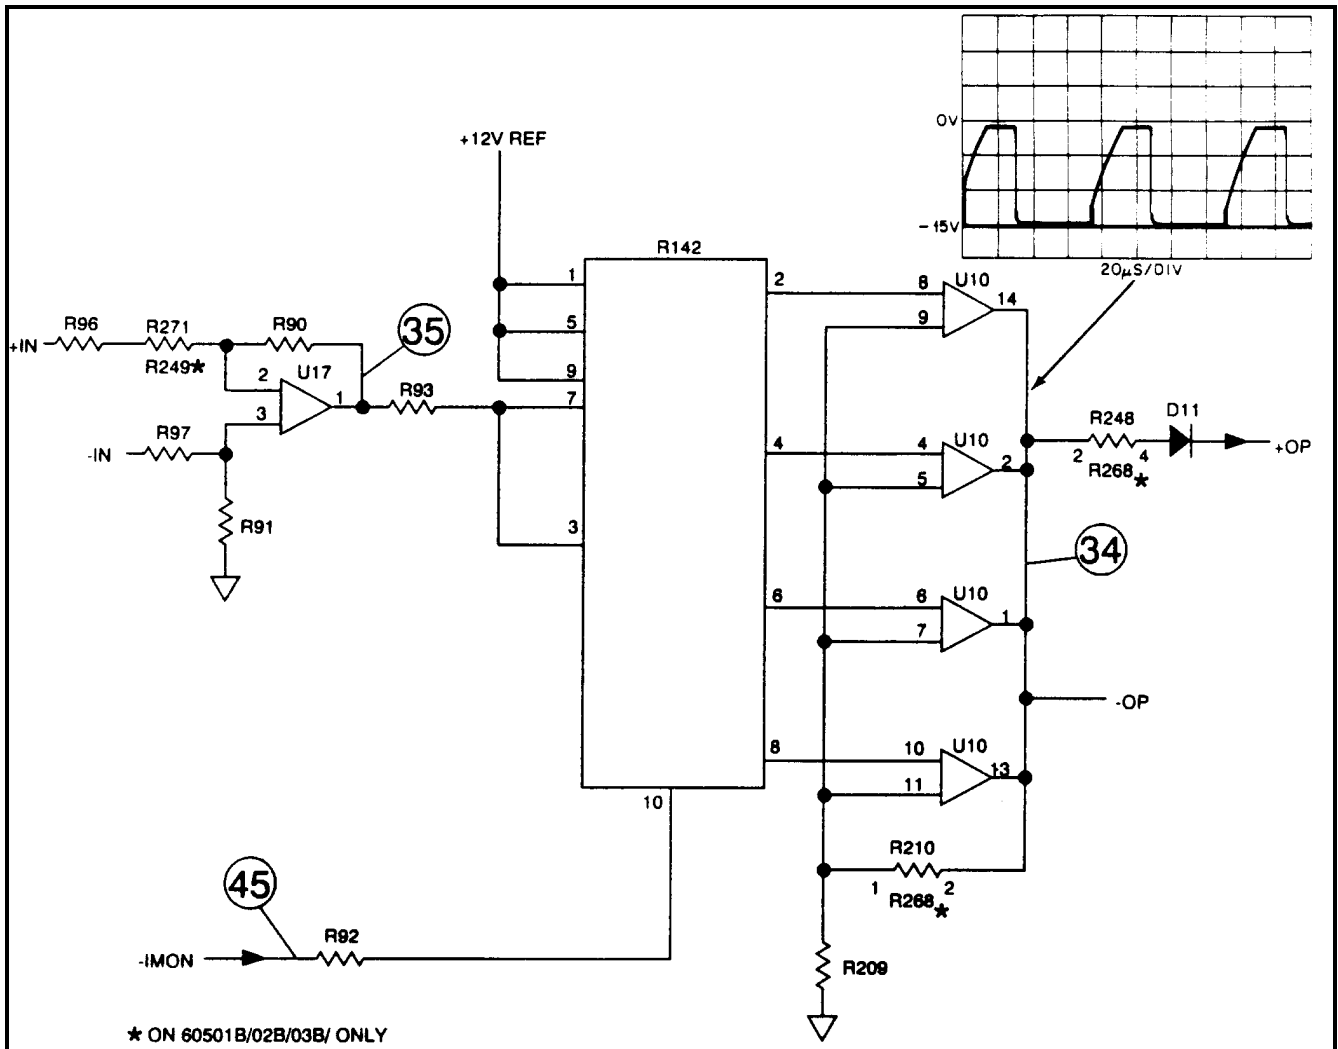

Figure 3-10. Overpower Circuit Troubleshooting
Overpower Circuit Troubleshooting (Figure 3-10)
When the overpower circuit is active, limiting input power capability, the comparator circuit becomes a relaxation oscillator and its output voltage at test point (34) will go between -14 volts and 0V (see waveform on Figure 3-10).